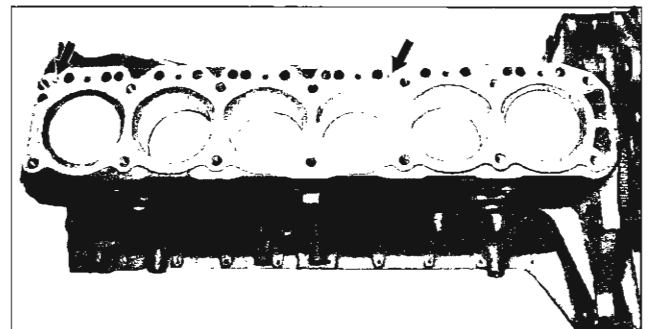

Fig. 25—Installing Head Gasket
1. Place a new cylinder head gasket in position over dowel pins in cylinder block (fig. 25).